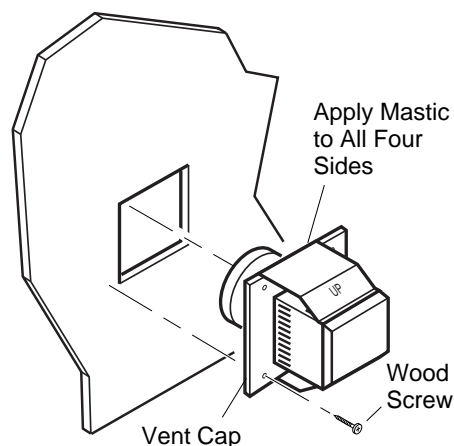

Figure 23 - Installing Horizontal Vent Cap
4. Apply a bead of non-hardening mastic around the outside edge of the vent cap. Position the vent cap in the center of the 7 1/2" or 10" hole on the exterior wall with the word "up" on the vent cap facing up. Insure proper clearance of 1" to combustibles is maintained. Attach the vent cap with four wood screws supplied (see Figure 23). **Note:** Replace the wood screws with appropriate fasteners for stucco, brick, concrete, or other types of siding.